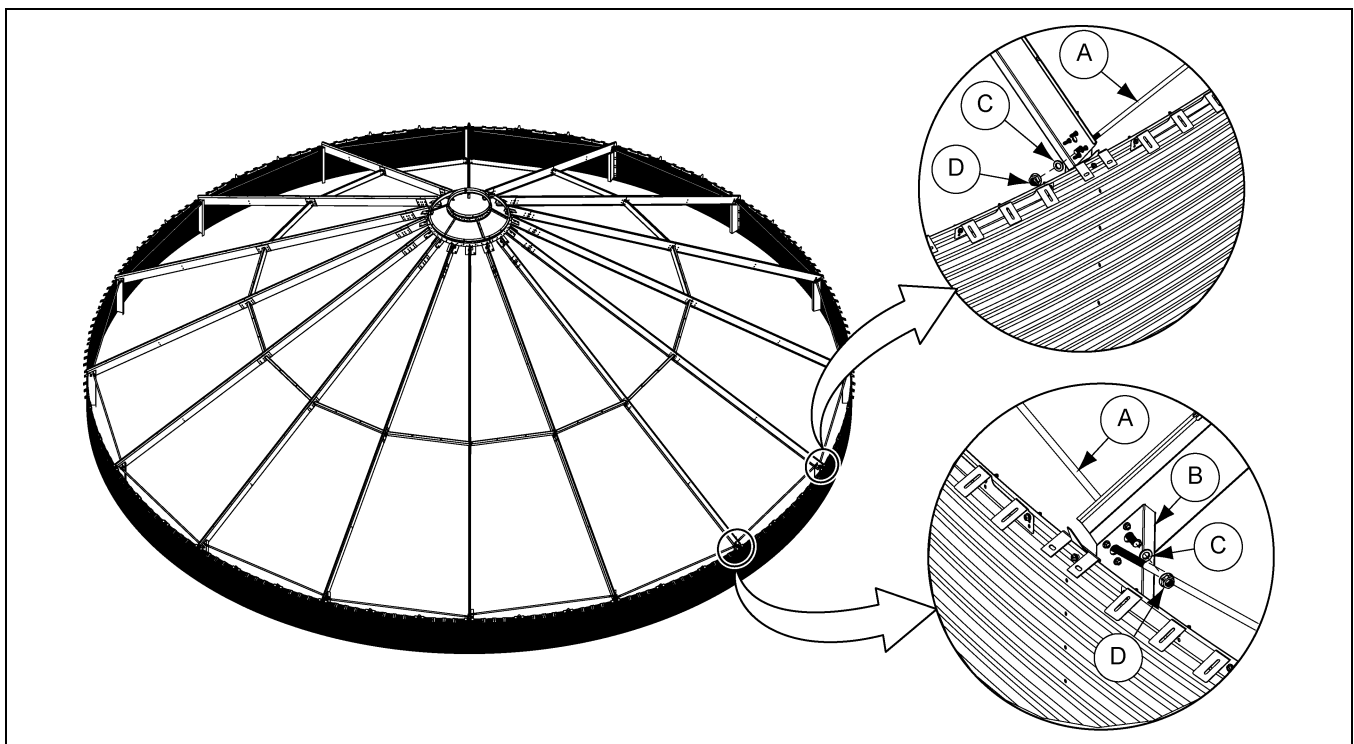

Figure 8K Installation of the Tension Rods
1. Install the tension rods (A) between the two (2) rafter brackets (B) with washers (C) and nuts (D) as shown in Figure 8K.